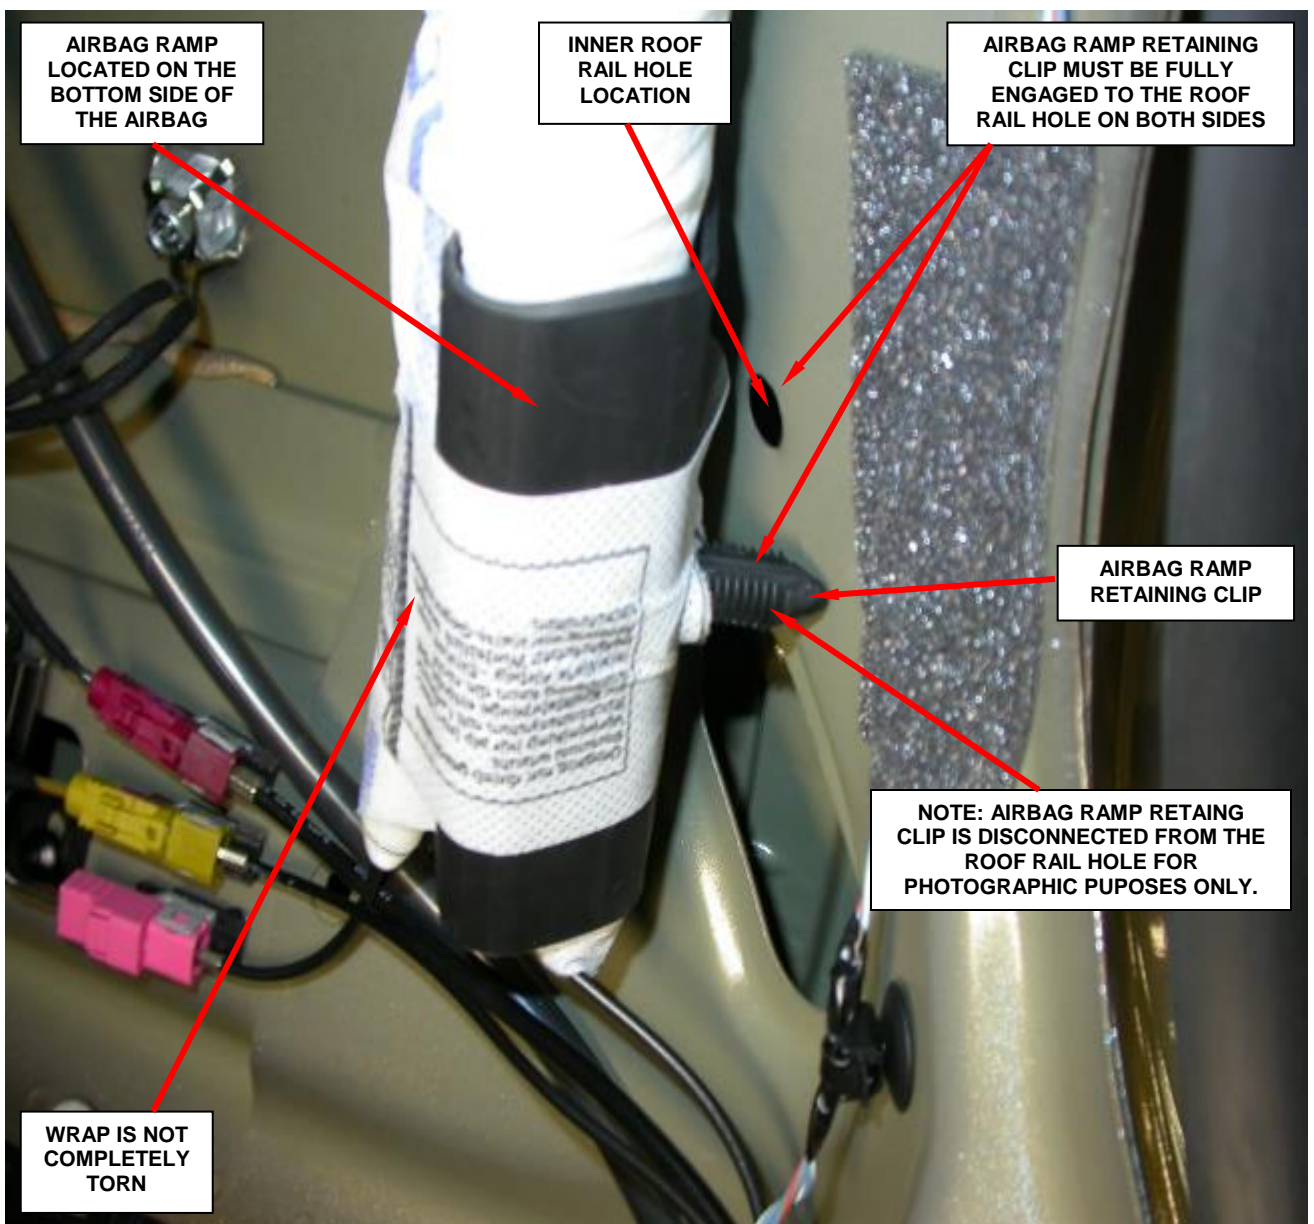

Figure 22 – Airbag Ramp Position
2. Inspect the airbag ramp retaining clip on the right and left side SABIC modules. Ensure the airbag ramp retaining clip is fully engaged to the inner roof rail hole (Figure 22).
➤ Vehicles that do not have either airbag ramp out of position or the wrap is not completely torn on either side, continue with Section D. Install Foil Patches (Figure 22 and 23).